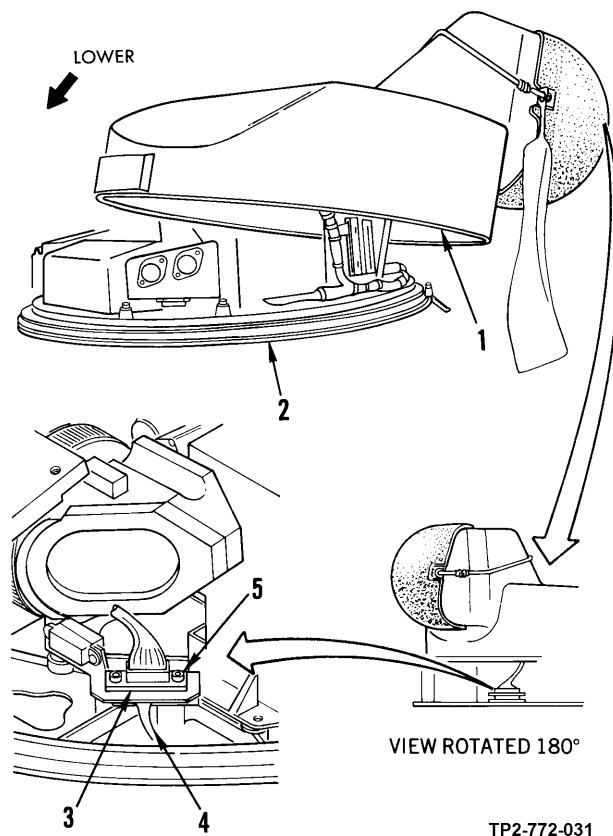

Figure 3-25. Shroud Cable Connector P1 Installation on PNVS NSA
- (d) Carefully lower shroud along a sloped direction toward PNVS NSA. Stop when shroud rim area (1, figure 3-25) under window cover is no more than 6 inches above NSA mounting base (2).